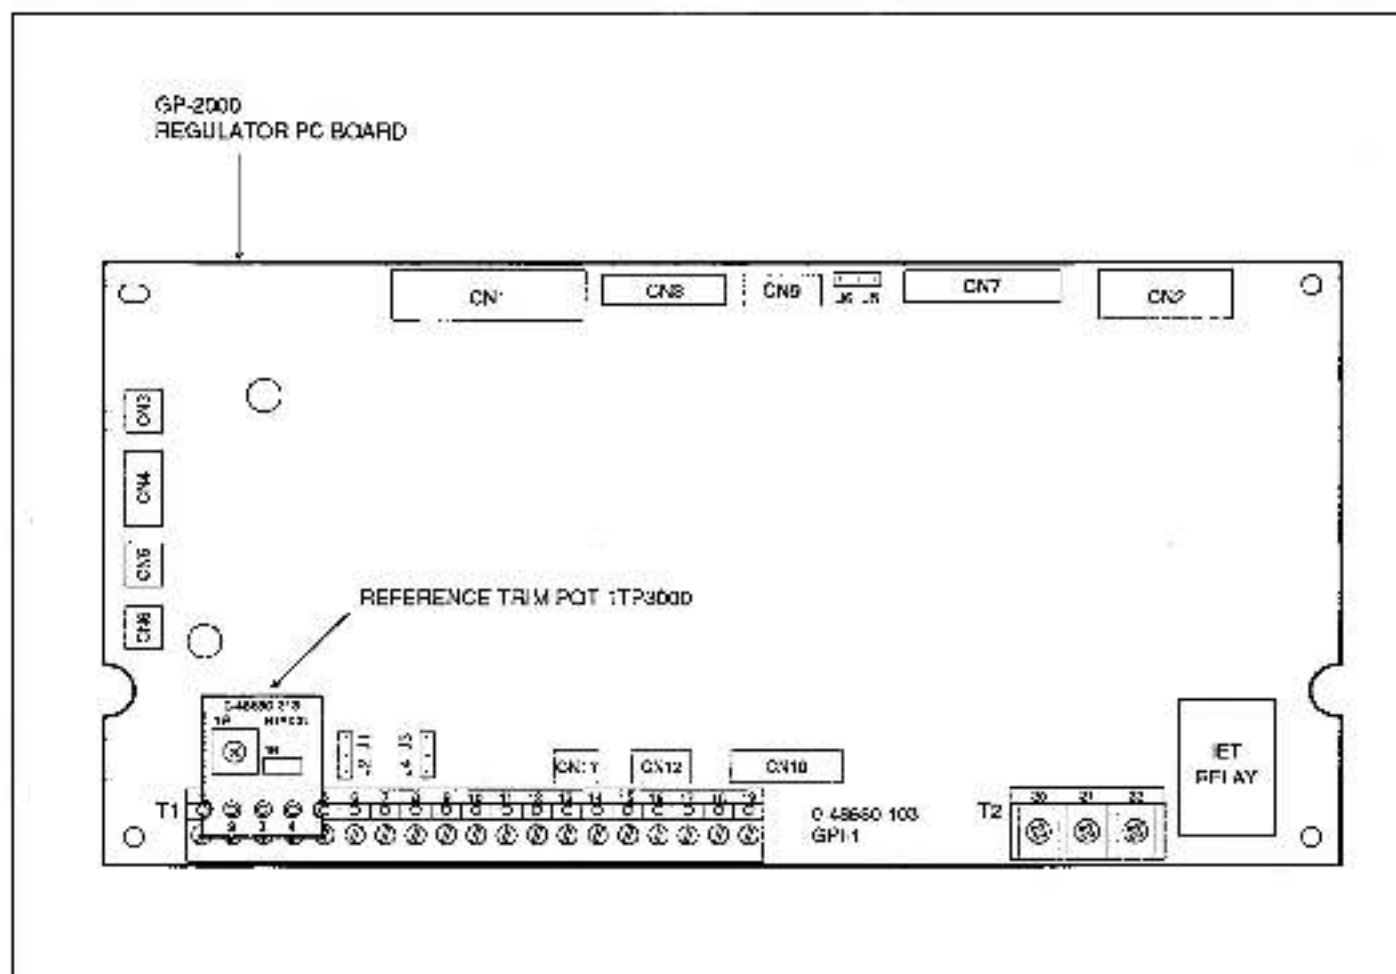

Figure 4. Installation Location
6. Directly insert three pins of the kit into the holes of terminals 2, 3, and 4 on the regulator board. See Figure 4.